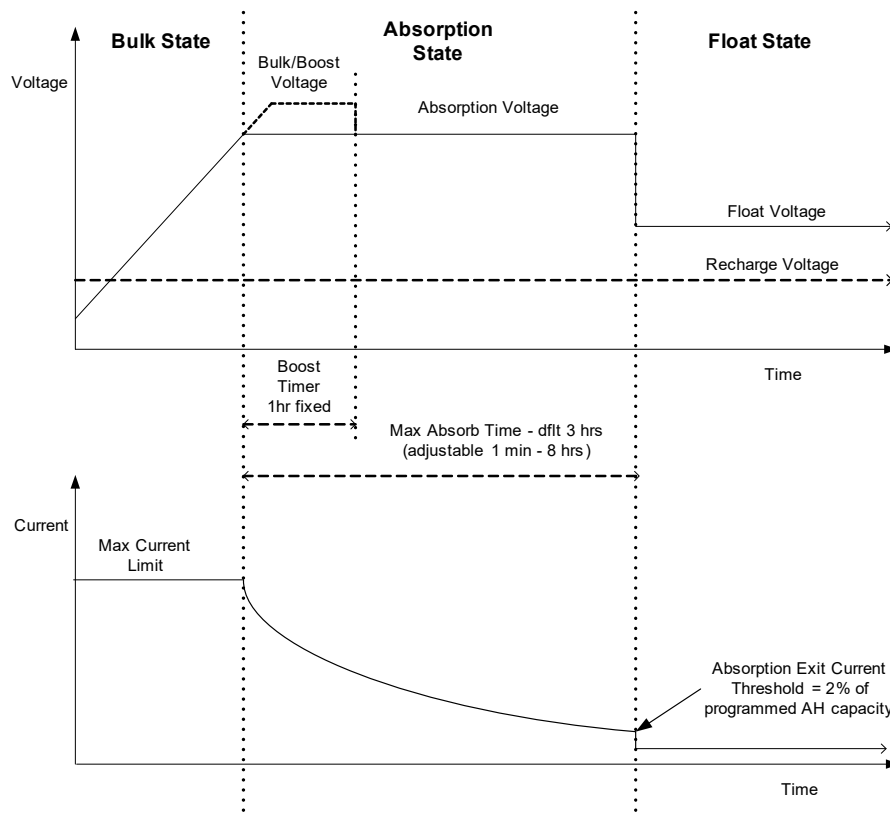
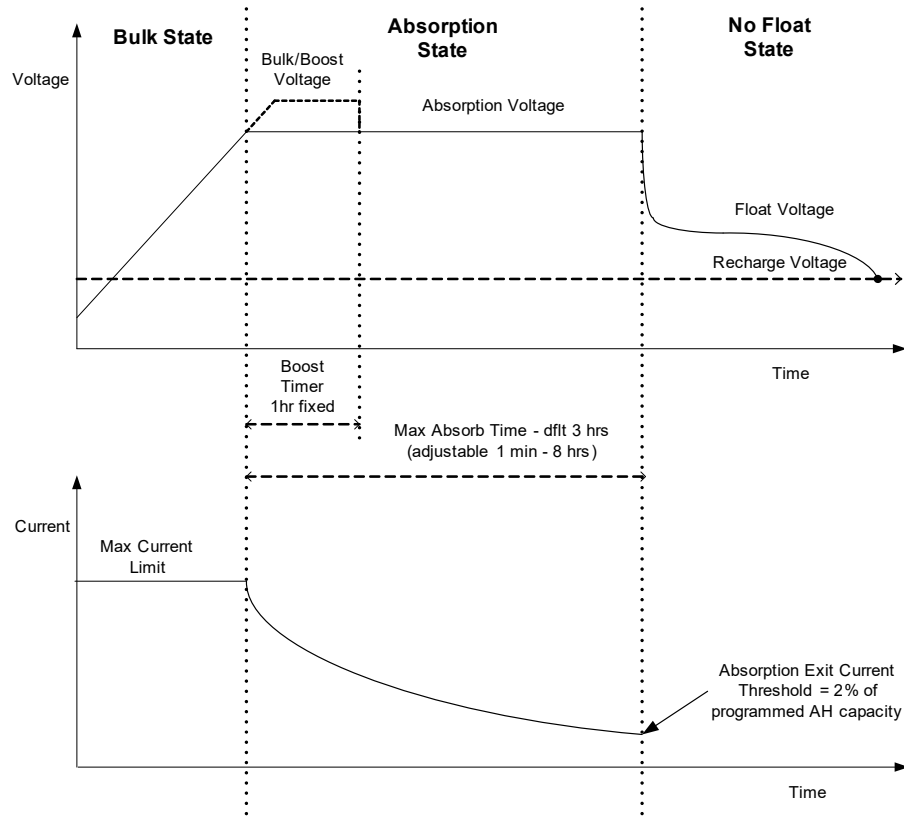

Figure 1-4 Three-stage Battery Charging Cycle^a
Figure 1-5 Two-stage Battery Charging Cycle
The three-stage charging process results in more efficient charging compared to on-off relay type or constant voltage solid-state regulators. The final float stage reduces battery gassing, minimizes electrolyte loss, and ensures complete battery recharging. Battery voltage and current vary during the three-stage charging process as shown in Figure 1-4.
a. An actual charging cycle for a PV-based system that is in use while it is being charged will likely differ from the cycle represented in Figure 1-4. This is because a PV system's output is limited by the amount of solar energy available, and also because DC loads will affect the charge current and the measured battery voltage.
Note: This note is applicable to Figure 1-4 and Figure 1-5.
The two-stage charging process includes the bulk and absorption stages, but uses a “No Float” stage instead of “Float.” The relationship between charging current and battery voltage during the two-stage charging process is shown in Figure 1-5.